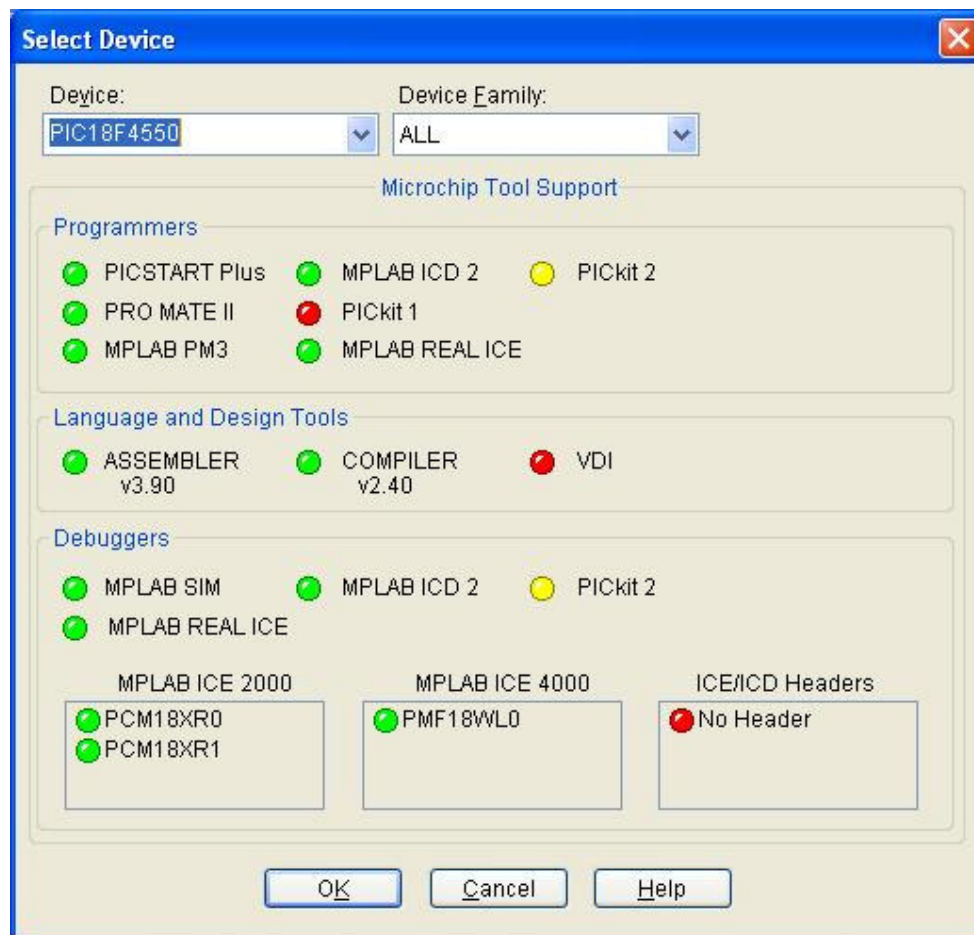

Figure 10 Select Device
2. Click “Configure/Select Device...”, “Select Device” window open up, select “PIC18F4550” from the device drop down list, then click “OK”, as shown in figure 10. PIC18F4550 will show up in the bottom status bar.